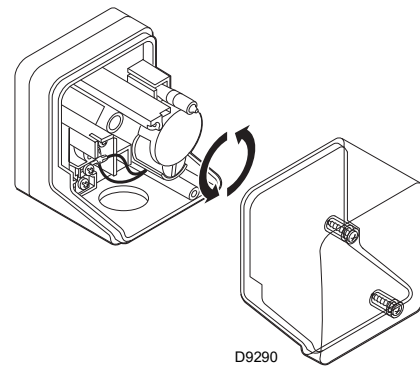

Fig. 40
- Adjust the low gas pressure switch to the start of the scale (Fig. 40 on page 40).
Adjust the minimum gas pressure switch (Fig. 40) after having adjusted the burner, the gas valves and the gas train stabiliser. With the burner operating at maximum output: